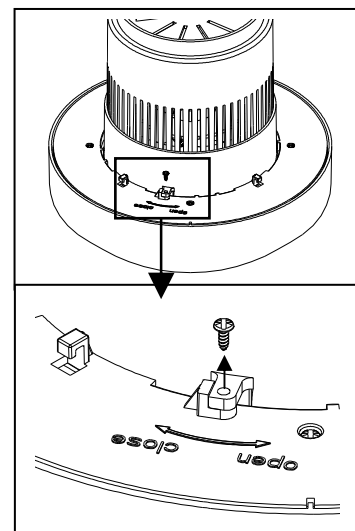

Fig. 7
- Turn the Floating Pump and Filter assembly upside down. Remove the locking screw. Fig. 7